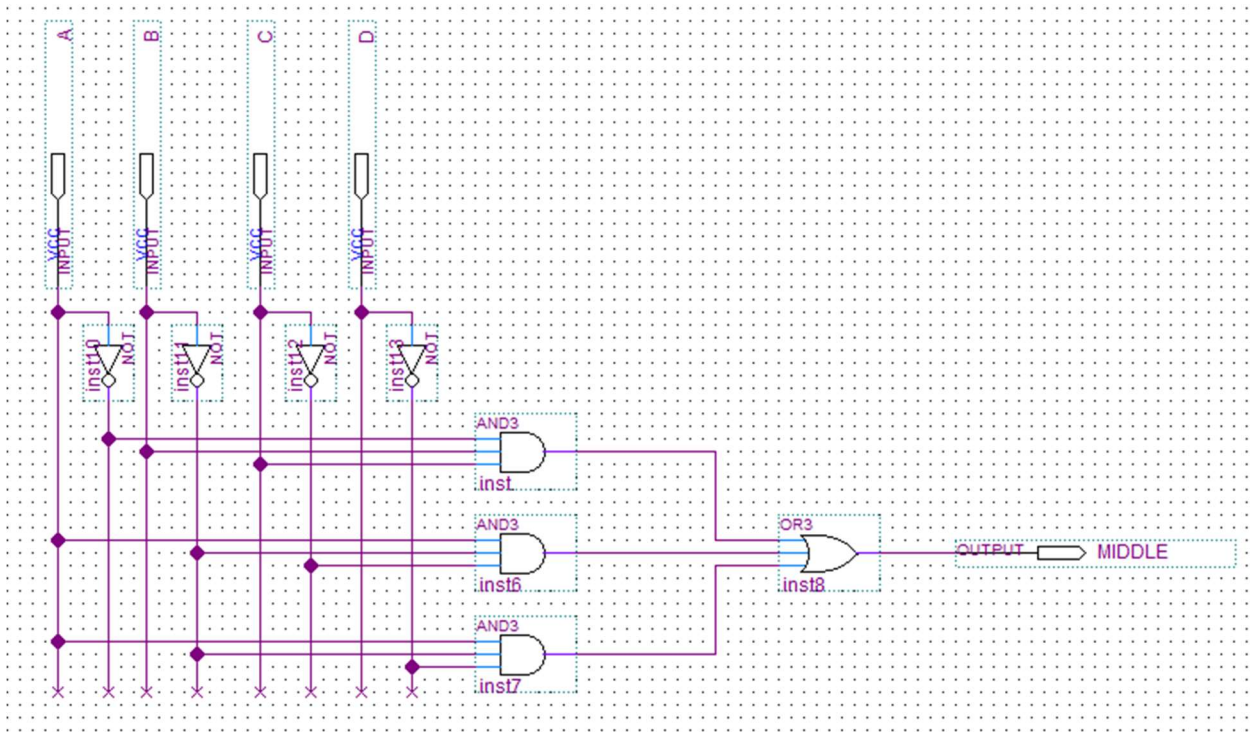

Figure 3: Middle detector
3. **Draw** and **simulate** the circuit of Figure 3. It detects 4-bit numbers 6, 7, 8, 9, and 10.